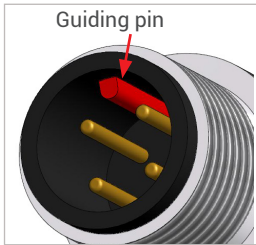
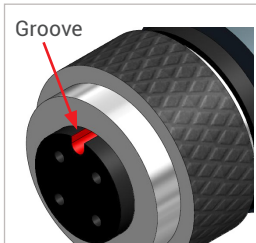

Figure 2
Figure 3
**Attention:** The guiding pin of the data cable connector must engage in the groove of the interface cable connector (Figure 3 and Figure 2).